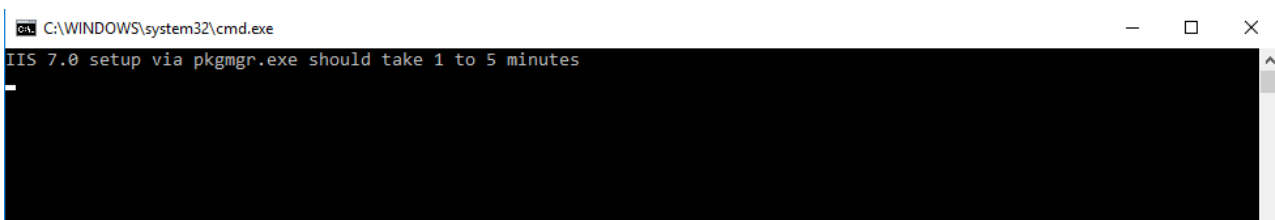

Figure C2a
2. When IIS is done installing, note the numeric code given. If the code is "0" the installation was successful. Press any key to continue. (Figures C2a and C2b)